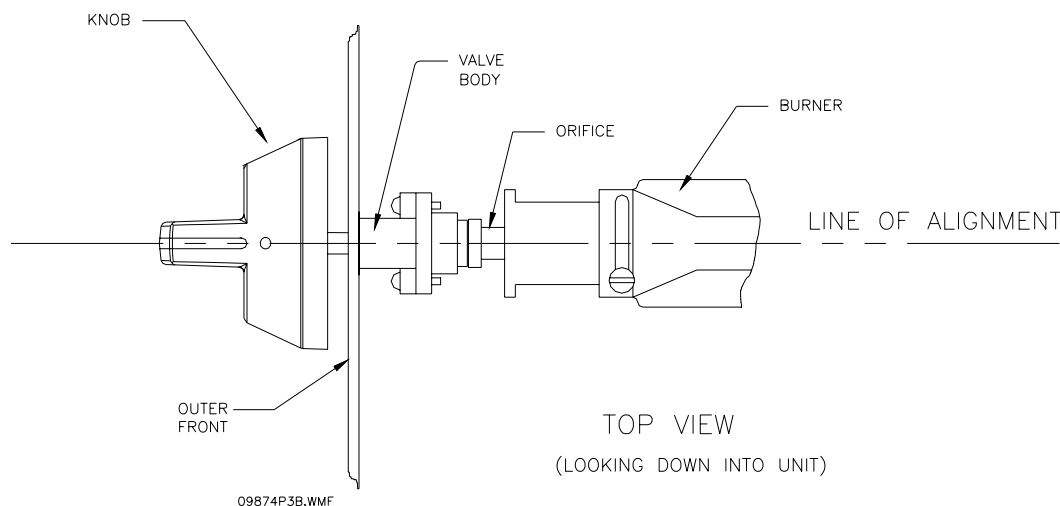

Figure 9
- Remove the service shelf by removing the two screws at the ends (29).
- The front of the burners, the valve bodies, and orifices are now exposed for inspection. Looking down into the unit, compare each assembly with the diagram below (Figure 9) for alignment.